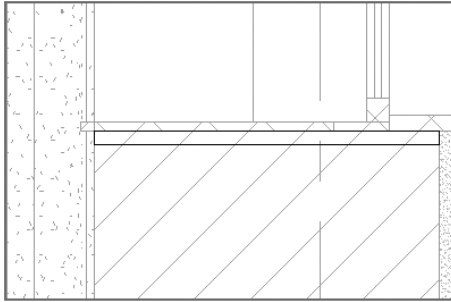

FIGURE 11.6 Adding a masking region
7. With Line Style set to Thin Lines, create a box 1" (25 mm) deep under the window sill (Figure 11.6).